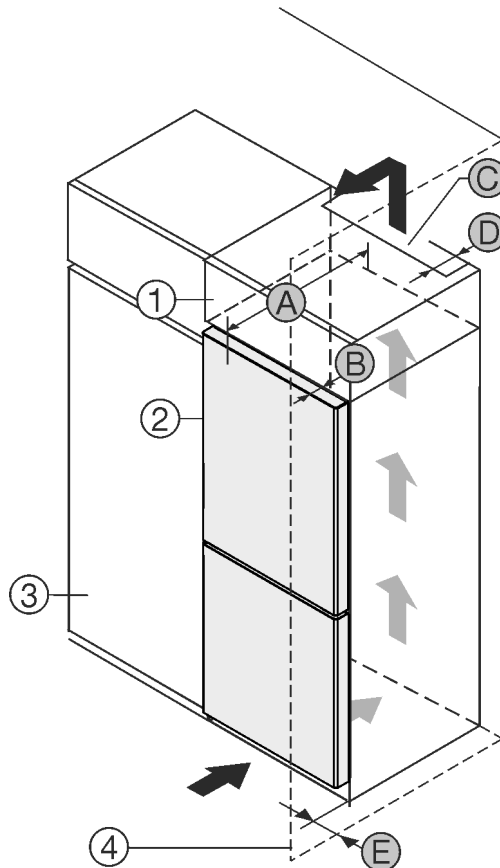

Fig. 1
- (3)** Kitchen cabinet *
- (4)** Wall *
- (A)** Appliance depth *
- (D)** Distance to the back of the appliance *
- (E)** Distance to the side of the appliance *
You can place the appliance directly beside the kitchen cabinet *Fig. 1 (3)*.*
There must be a ventilation shaft at the depth *Fig. 1 (D)* of the back of the top cupboard over the entire width of the top cupboard.*
The ventilation cross-section *Fig. 1 (C)* must be maintained under the ceiling.*
If the appliance is set up with the hinges next to a wall *Fig. 1 (4)*, the distance between the appliance and the wall must be at least 13 mm.*
If the appliance is set up with the hinges next to a wall *Fig. 1 (4)*, the distance between the appliance and the wall must be at least 20 mm.*
In order to be able to fully open the door, the appliance must protrude by the depth of the door *Fig. 1 (B)* from the front of the kitchen cabinet. The appliance may protrude further depending on the depth of the kitchen cabinets *Fig. 1 (3)* and whether wall spacers are used.*